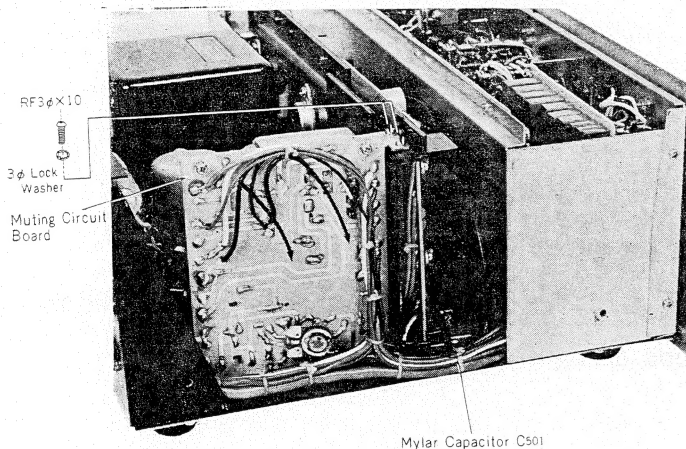

Fig. 2
- (c) Unsolder the mylar capacitor (C501) from main amplifier, then remove the two screws as shown in Fig.2. Now the muting circuit board can be removed.